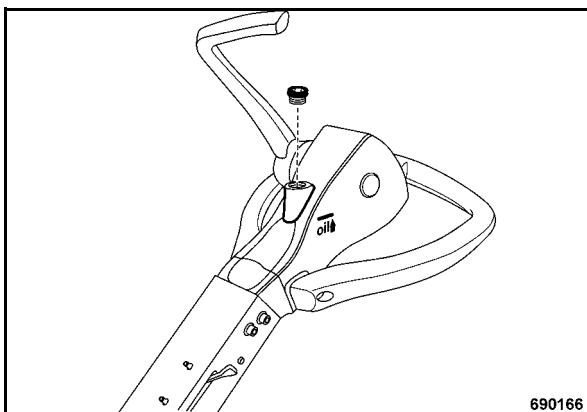

Fig. 66
- Screw in and tighten the plug (Fig. 66).